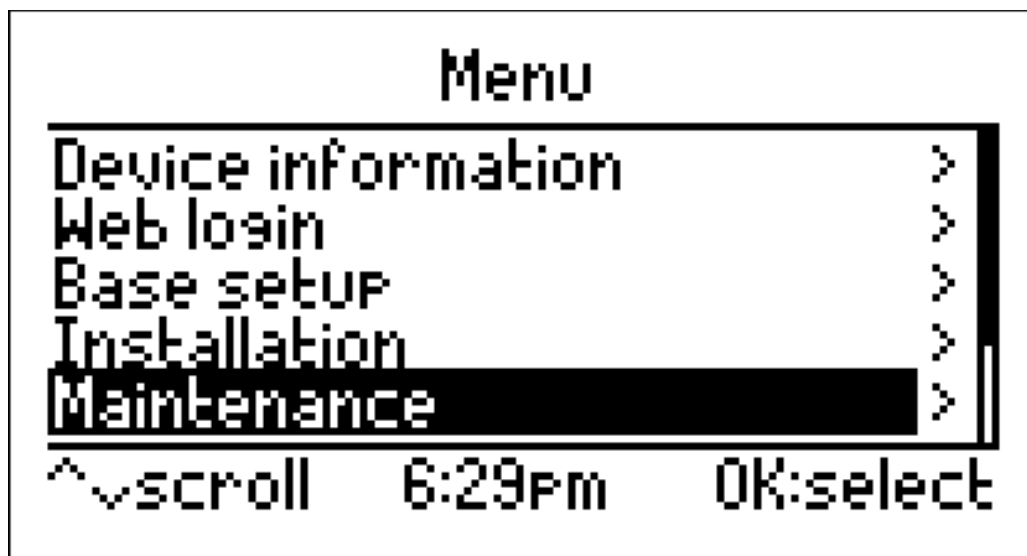

Figure 4 Select Maintenance
4. Scroll down using the up and down arrows and select "Maintenance" (see Figure 4).